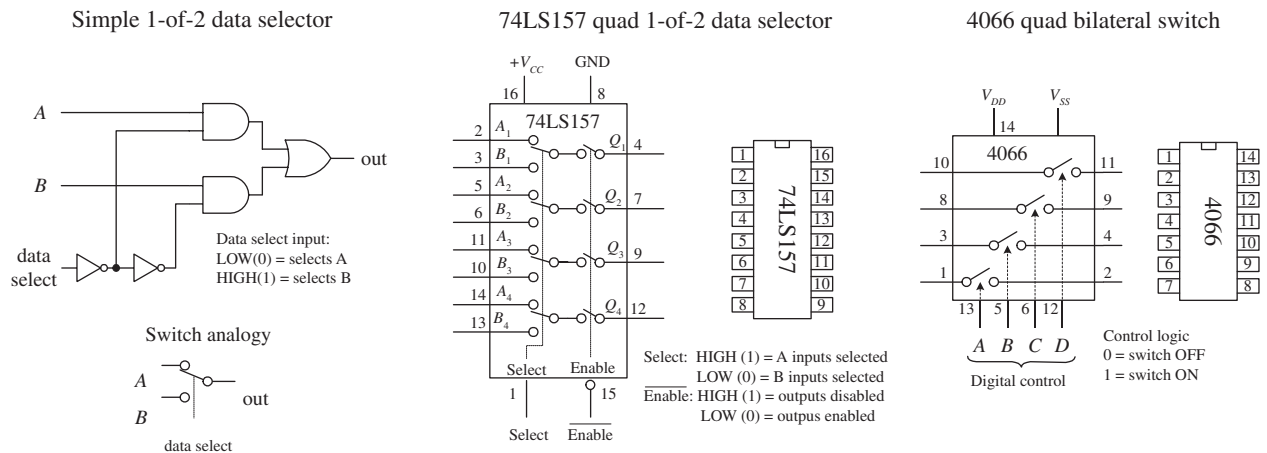
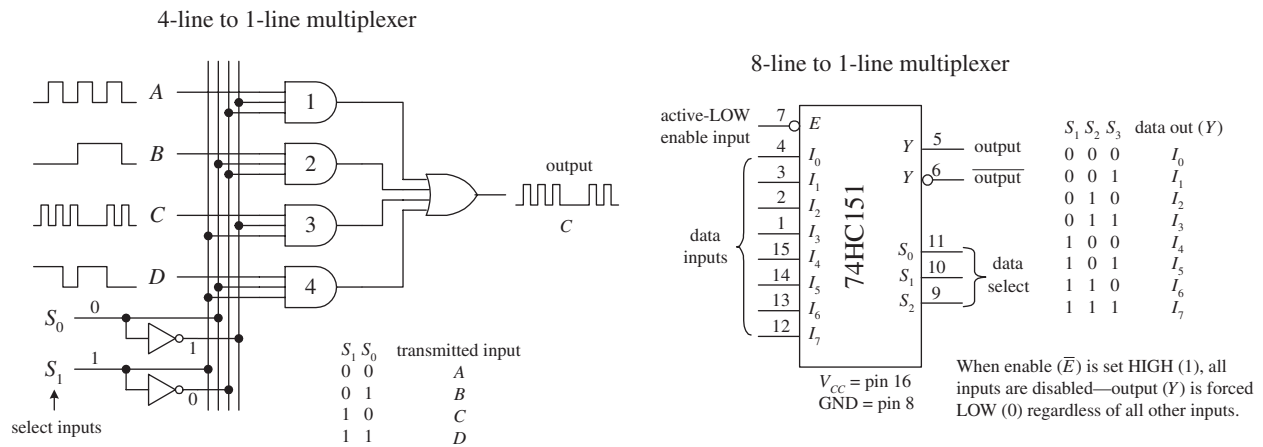

FIGURE 12.32
FIGURE 12.33
A simple 1-of-2 data selector built from logic gates is shown in Fig. 12.32. The data select input of this circuit acts to control which input (*A* or *B*) gets passed to the output: When data select is low, input *A* passes while *B* is blocked. When data select is high, input *B* is passed while *A* is blocked. To understand how this circuit works, think of the AND gates as enable gates.
There are a number of different types of data selectors that come in IC form. For example, the 74LS157 quad 1-of-2 data selector IC, shown in Fig. 12.32, acts like an electrically controlled quad SPDT switch (or if you like, a 4PDT switch). When its select input is set high (1), inputs $A_1, A_2, A_3,$ and A_4 are allowed to pass to outputs $Q_1, Q_2, Q_3,$ and Q_4 . When its select input is low (0), inputs $B_1, B_2, B_3,$ and B_4 are allowed to pass to outputs $Q_1, Q_2, Q_3,$ and Q_4 . Either of these two conditions, however, ultimately depends on the state of the enable input.
Figure 12.33 shows a 4-line-to-1-line multiplexer built with logic gates. This circuit resembles the 2-of-1 data selector shown in Fig. 12.32 but requires an additional select input to provide four address combinations.
Finally, let's take a look at a very useful device called a *bilateral switch*. An example bilateral switch IC is the 4066, shown to the far right in Fig. 12.32. Unlike the multiplexer, this device merely acts as a digitally controlled quad SPST switch or quad